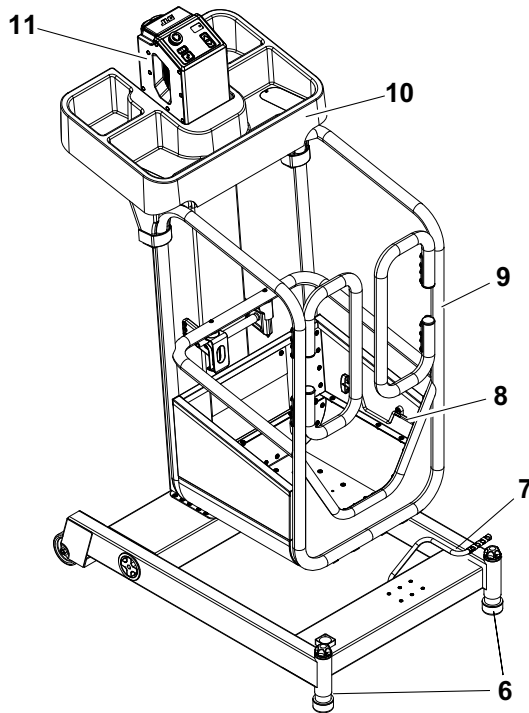

Figure 2-3. Daily Walk-Around Inspection
Begin the Walk-Around Inspection at item one (1) as noted on the diagrams Figure 2-2. and Figure 2-3. Continue around machine checking each item in sequence for the conditions listed in the following check list.